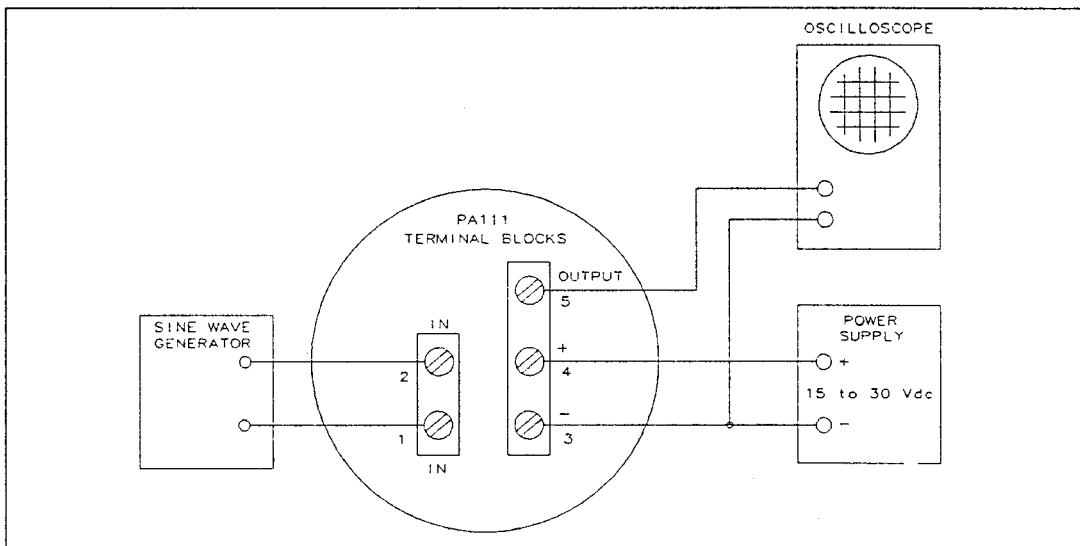

Figure 6. PA111 Test Setup
1. Connect the PA111 and the test equipment as shown in Figure 6. Set the power supply to +20 Vdc.